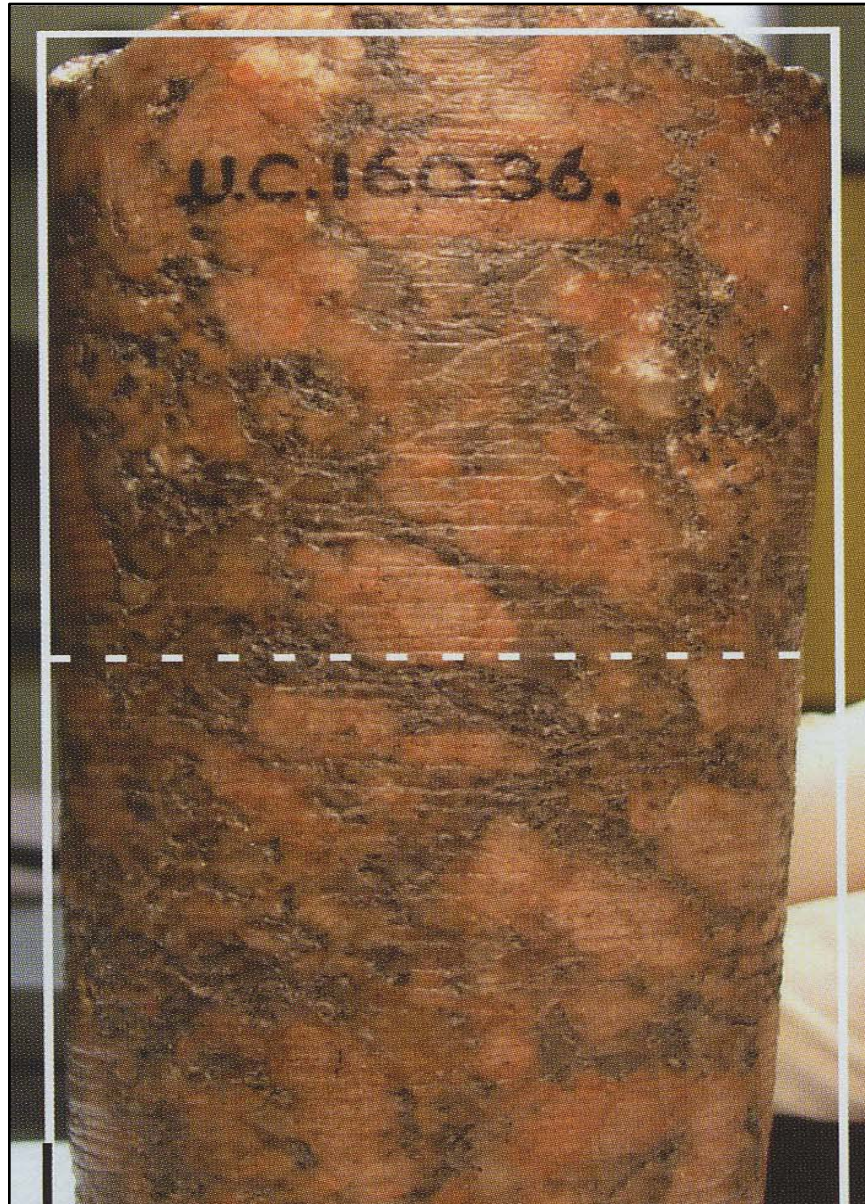

Figure 10. Core with cylindrical feed marks
- modern manufacturers reserve for precision surface plates. Tool marks that left spiral-grooves on cores that were cast aside by workers and left outside the pyramid indicate that the feed-rate of the Egyptian tubular drills was .10-inch per revolution of the drill and are visible in Figure 10. To keep this in perspective, the feed-rate of modern drills is .0002-inch per revolution. This indicates that the ancient Egyptians drilled into granite with a feed-rate that was *five hundred times greater (or deeper per revolution of the drill) than modern drills* which is an astounding comparison between the capabilities of ancient Egyptian masons and modern masons